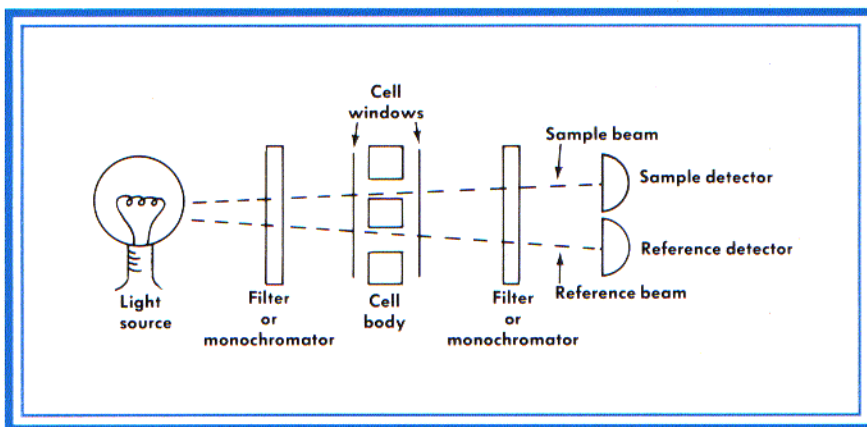

FIGURE 1: Generalized optical detector.
The most popular detectors used in liquid chromatography today measure the optical properties of the sample in the presence of bulk mobile phase. The block diagram in Figure 1 shows the major components of the optical detector. The optical source has a spectrum of wavelengths of light available for use in the detector. The sources may emit intense lines at specific wavelengths, such as the 254-nm Hg line commonly used in fixed-wavelength UV detectors, or a continuum of light over a broad range, such as that emitted by the deuterium lamp used in variable-wavelength UV detectors or by the tungsten lamp used in refractive-index (RI) detectors. There are also specialty lamps with wavelengths desirable for particular applications, such as the zinc lamp used for 214-nm detection or the variety of fluorescent tubes used in filter fluorometers.